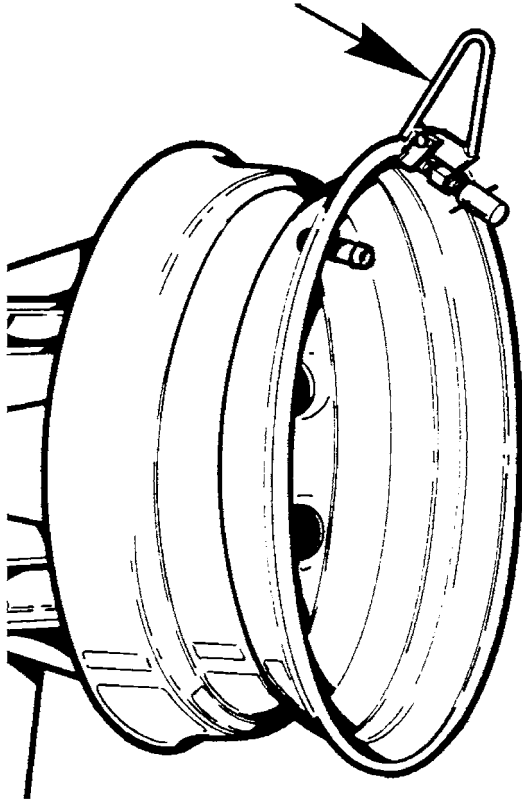

Fig.23
1. Liberally lubricate the entire inner surface of the rim and the tire beads. Attach the mounting clamp (fig.23) to the outer rim flange with the valve at 11 o'clock and the clamp at 12 o'clock.